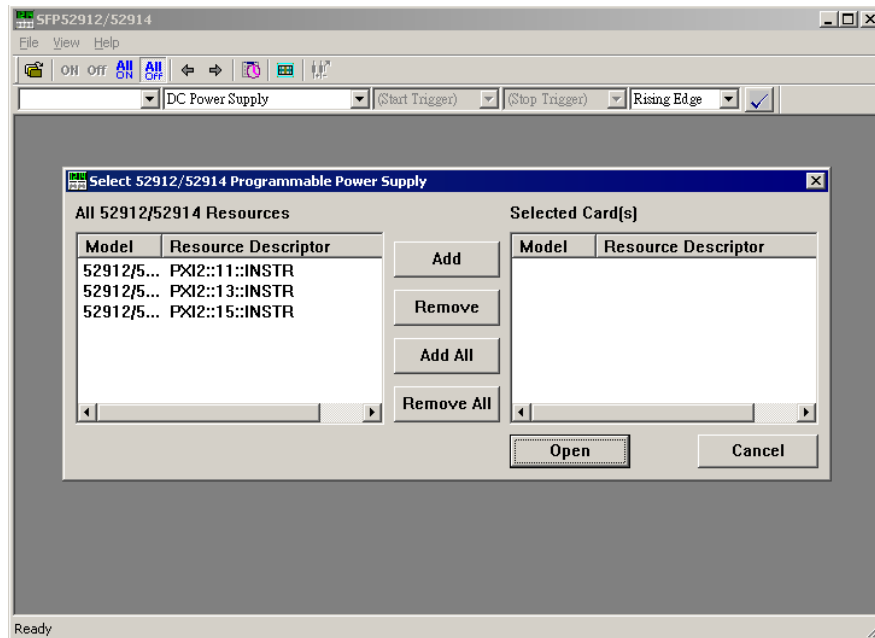

Figure 4-2 Main Window
2. The main screen will appear as the figure below (Figure 4-2).